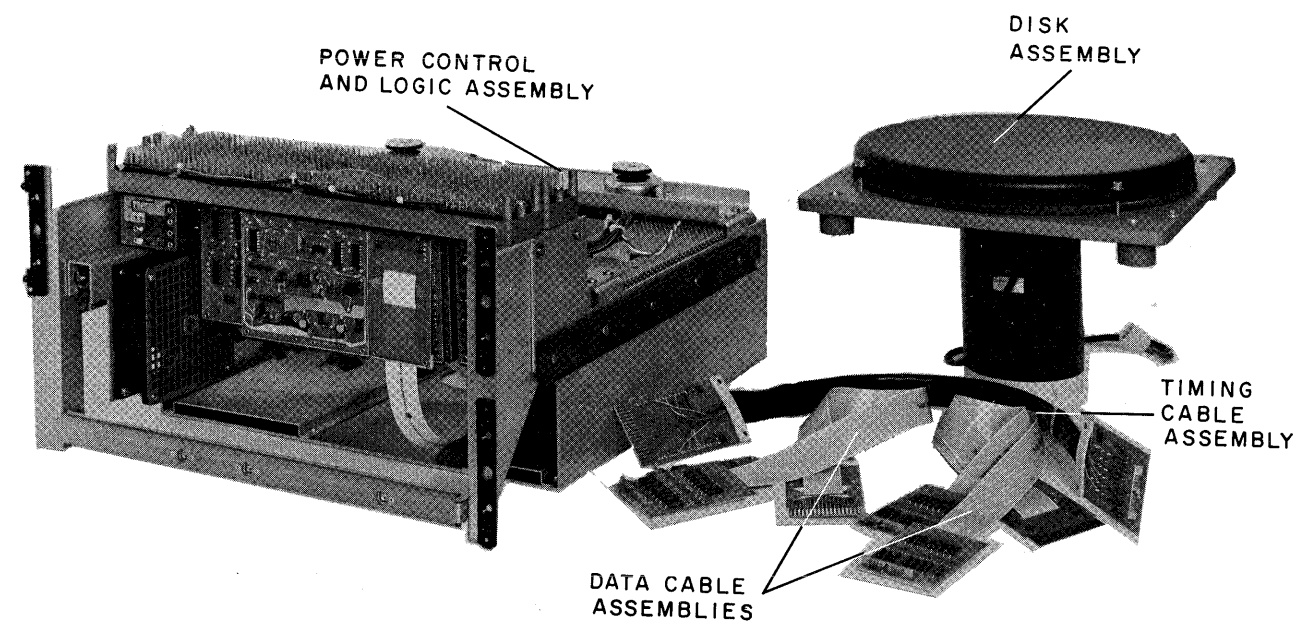

Figure 1-2 RS64 Disk File Major Assemblies
The disk assembly, Figure 1-2, consists of a 10-in. diameter nickel-cobalt plated aluminum disk, a drive motor, and five head assemblies mounted on a deck plate. The deck plate is supported by four shock mounts. A cover protects the disk and heads from dust and foreign particles. Data connections are made via connectors on the underside of the deck plate. A 4-wire power cord connects the drive motor to the RS64P power control and logic assembly.
1.3.3.5 Data and Timing Cable Assemblies – Two flat Mylar data cable assemblies (Figure 1-2) interconnect the data track heads with the read/write logic. Each data cable assembly handles the signals for two head shoe assemblies; it has two 8-track matrix-connector modules at the head end. One timing matrix cable assembly (Figure 1-2) interconnects the timing heads with the read/write logic. This cable has a 6-track matrix module at the disk end and a connector module at the logic end.